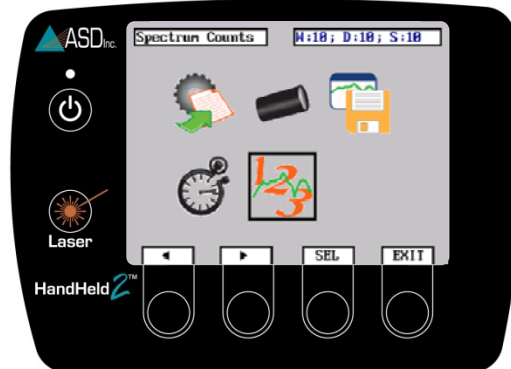

Figure 2-21: Navigate to Spectrum Counts menu icon
- Step 1 Navigate to the Spectrum Counts menu icon and press the SEL button (Figure 2-21).